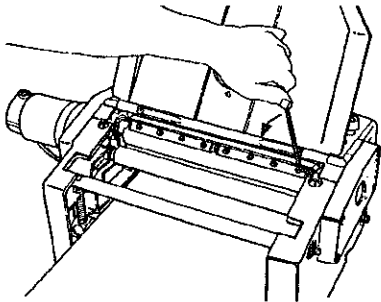

Fig. 66
3. Pop the wedge loose- Using the 5/32" Allen wrench again, turn the right knife leveling screw counterclockwise 1/4 turn, as seen in Fig. 66. This usually requires a strong twist if the wedges are properly seated. Move to the middle screw and turn it 1/4 turn, then the left screw.